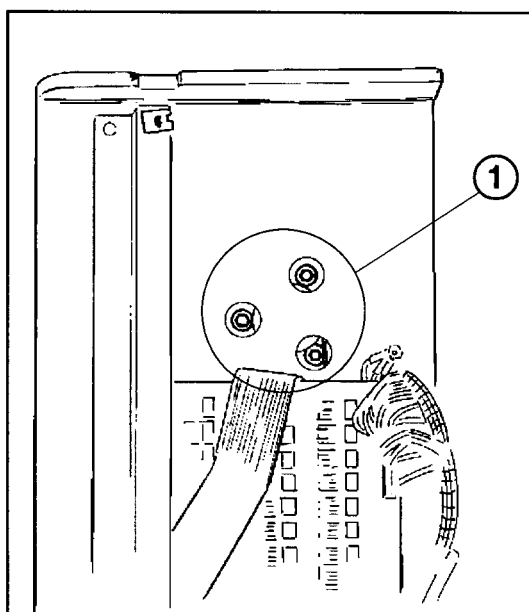
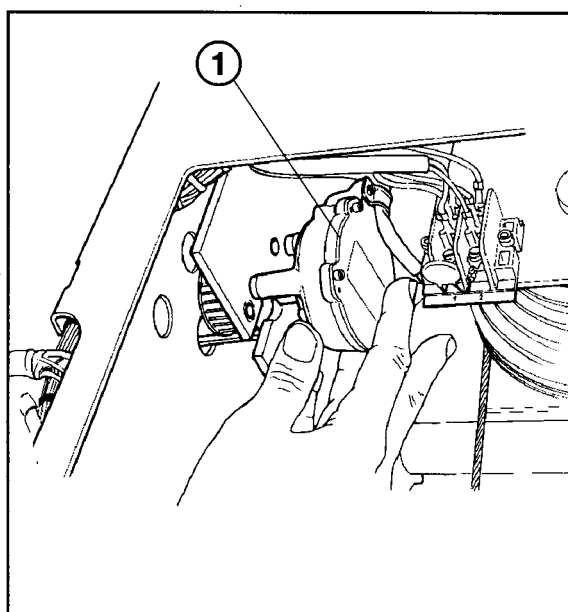

Fig. 11
Fig. 12
- Loosen the three screws (1/Fig. 11) to remove the motor (1/Fig. 12).
- Open belt (1/Fig. 12)